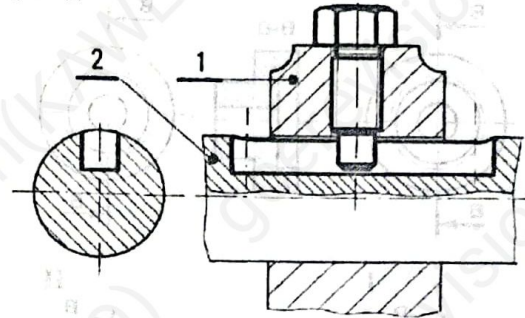

Figure: 21
34. Referring to the assembly drawing in figure 21 below, part 1 is guided in _____ with respect to part 2.